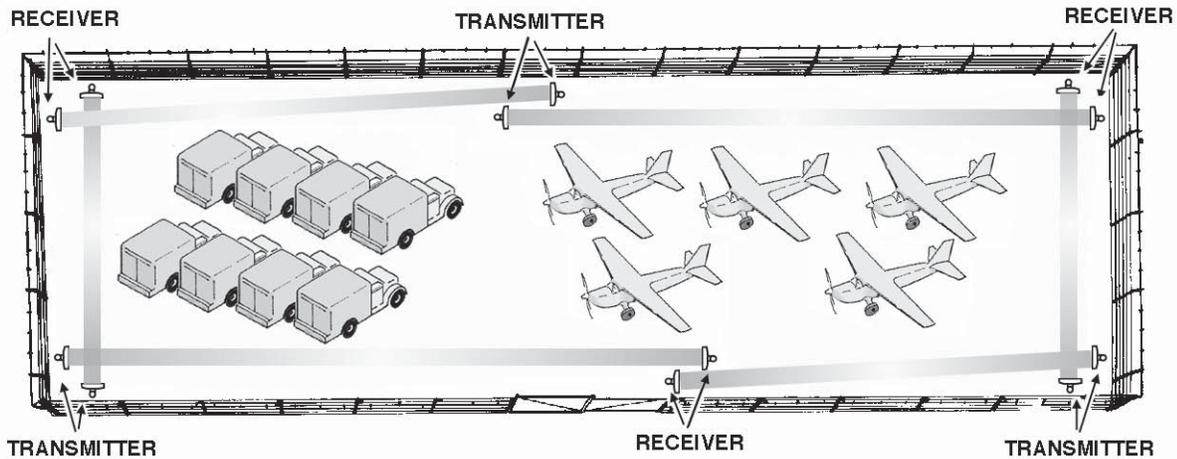

Figure 6. Perimeter Layout
Note that at each point of overlap either two Transmitters or two Receivers should be installed. This arrangement prevents an adjacent Transmitter and Receiver from establishing an unwanted link across the short overlap distance which could result in a Jam or Wrong Channel indication at the Receiver. Refer to Fig 6.
2. Using the Mounting Height Chart, Figure 6, determine the approximate mounting height of the units.